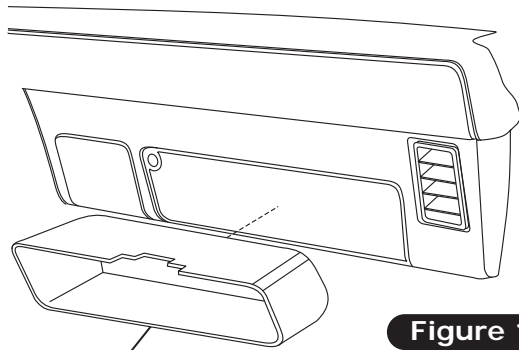
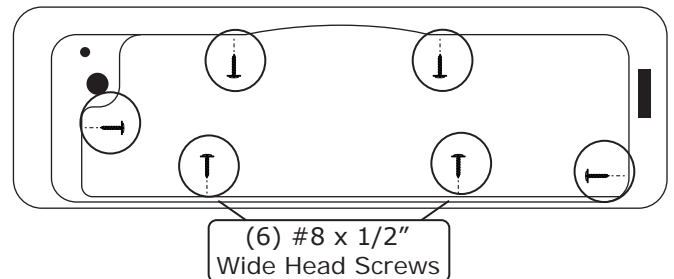

Figure 1
Figure 2
1. Install the center louver duct hose adapter onto the center louver bezel using (2) S-clips as shown in Figure 1, below.
2. Attach (2) 25" lengths of 2 1/2" duct hose to the center louver as shown in Figure 2, below.
1. Place the glove box into the glove box opening in the dash (See Figure 1, below).
2. Using the glove box as a template, mark and drill (6) 1/16" holes into the dash.
3. Secure the glove box using (6) #8 x 1/2" wide head screws (See Figure 2, below).